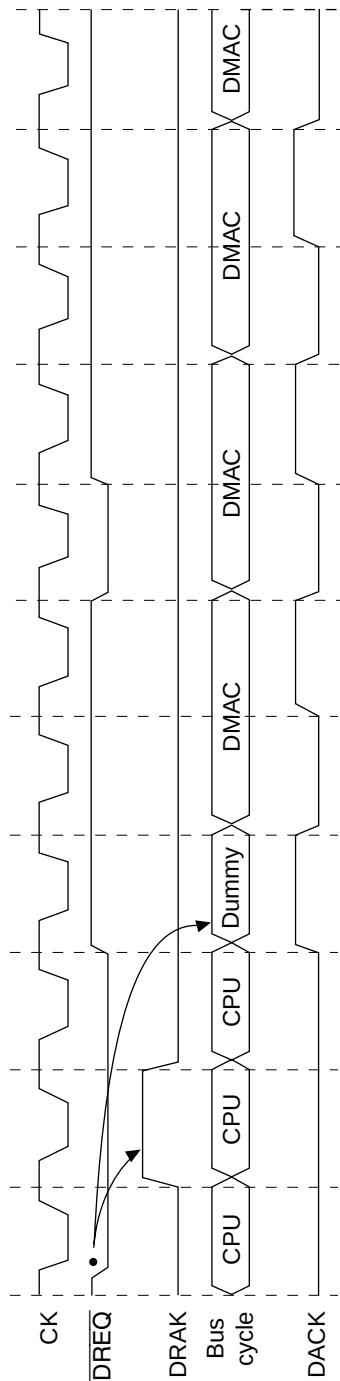

**Figure 11.24 Burst Mode, Single Address and Edge Detection**
**Burst Mode, Single Address, and Edge Detection:** In burst mode with single address and edge detection,  $\overline{\text{DREQ}}$  sampling is conducted only on the first cycle. In figure 11.24, a dummy cycle is inserted, at the earliest, three cycles after the timing for the first sampling. During this period, data is undefined, and DACK is not output. Nor is the number of DMAC transfers counted. Thereafter, DMAC transfer continues until the data transfer count set in the DMATCR has ended.  $\overline{\text{DREQ}}$  sampling is not conducted during this period. Therefore, DRAK is output on the first cycle only.